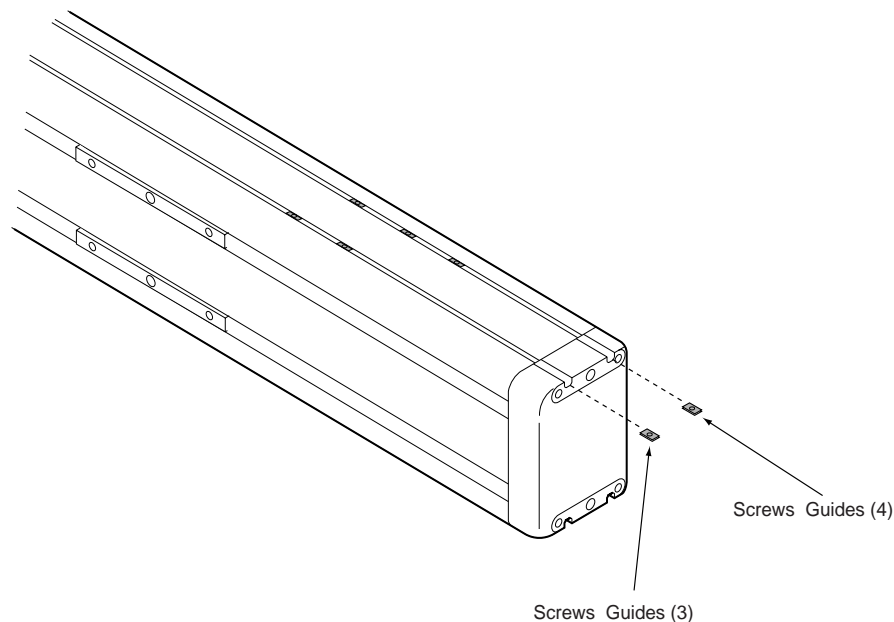

Figure 6-6. Y-Axis Cable Track Support Bracket Mounting Keys
5. Raise the Y-axis cable track and slide seven screw guides into the grooves as shown in Figure 6-6. Three screw guides should be placed in the groove closest to the Z-Theta combining bracket and four screw guides in the other groove.